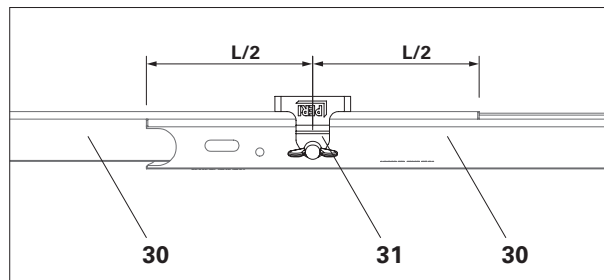

Fig. A5.06
With the Toe Board Compensation UPY-L (31) and two Toe Boards UPY (30), it is possible to fit a Toe Board that is continuously adjustable in terms of its length. (Fig. A5.06)